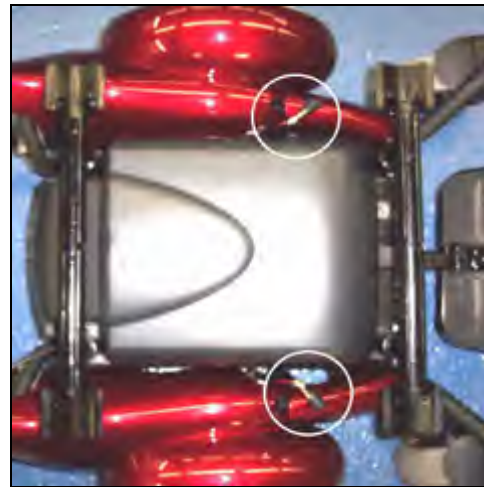

Figure 19
- ◆ To re-engage the gears and take your chair out of freewheel mode, turn the levers as shown. See figure 19.